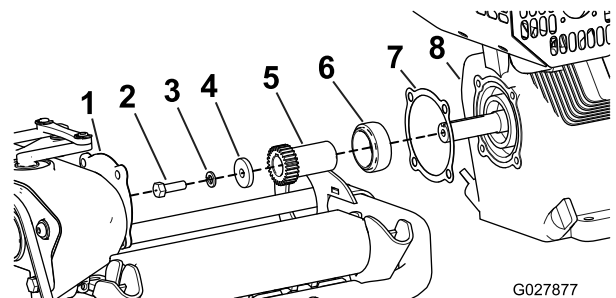

Figure 7
14. Remove and retain all engine output shaft hardware (Figure 7).